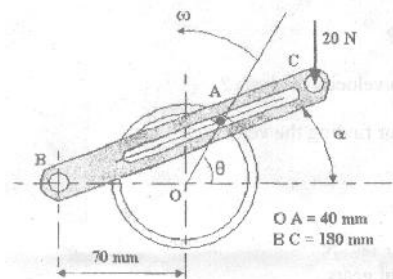

Fig.7
9. (i) Fig 7, shows the configuration of whitworth quick return mechanism. The length of the fixed link OA and the crank OP are 200mm and 300mm respectively. Other lengths are $AR = 200\text{mm}$ and $RS = 400\text{mm}$. Find the velocity of ram using instantaneous center method when the crank angle makes a angle of 120° with the fixed link and rotates at 10 rad/s . [NOV2013]